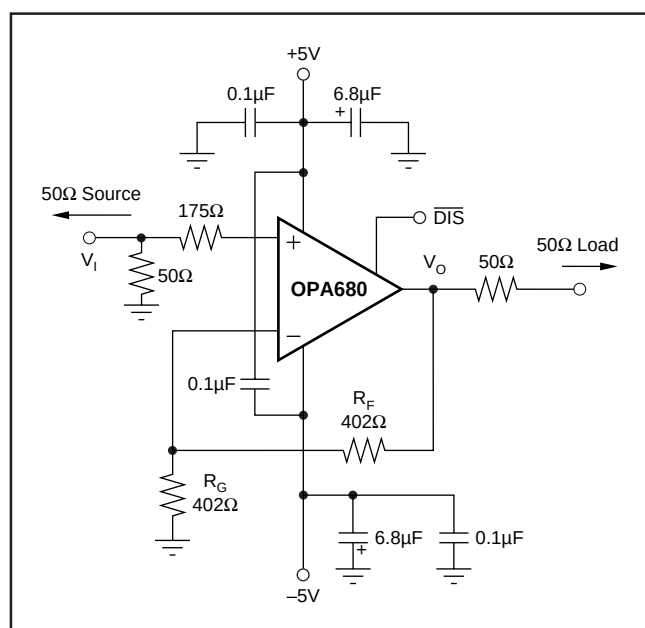
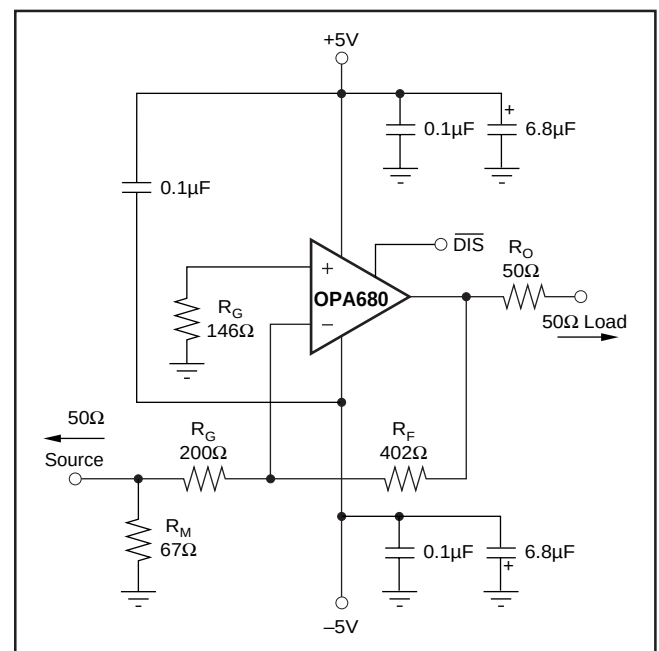

FIGURE 1. DC-Coupled, $G = +2$, Bipolar Supply, Specification and Test Circuit.
FIGURE 8. Gain of -2 Example Circuit.
At $T_A = +25^\circ\text{C}$, $G = +2$, $R_F = 402\Omega$, and $R_L = 100\Omega$, unless otherwise noted. See Figure 1.
At $T_A = +25^\circ C$, $G = +2$, $R_F = 402\Omega$, and $R_L = 100\Omega$, unless otherwise noted. See Figure 1.
Figure 1 shows the DC-coupled, gain of +2, dual power supply circuit configuration used as the basis of the $\pm 5\text{V}$ Specifications and Typical Performance Curves. For test purposes, the input impedance is set to 50Ω with a resistor to ground and the output impedance is set to 50Ω with a series output resistor. Voltage swings reported in the specifications are taken directly at the input and output pins, while output powers (dBm) are at the matched 50Ω load. For the circuit of Figure 1, the total effective load will be $100\Omega \parallel 804\Omega$. The disable control line is typically left open to guarantee normal amplifier operation. Two optional components are included in Figure 1. An additional resistor (175Ω) is included in series with the non-inverting input. Combined with the 25Ω DC source resistance looking back towards the signal generator, this gives an input bias current cancelling resistance that
A good rule of thumb is to target the parallel combination of R_F and R_G (Figure 1) to be less than approximately 300Ω . The combined impedance $R_F \parallel R_G$ interacts with the inverting input capacitance, placing an additional pole in the feedback network and thus, a zero in the forward response. Assuming a $2pF$ total parasitic on the inverting node, holding $R_F \parallel R_G < 300\Omega$ will keep this pole above $250MHz$. By itself, this constraint implies that the feedback resistor R_F can increase to several $k\Omega$ at high gains. This is acceptable as long as the pole formed by R_F and any parasitic capacitance appearing in parallel is kept out of the frequency range of interest.
Voltage feedback op amps exhibit decreasing closed-loop bandwidth as the signal gain is increased. In theory, this relationship is described by the Gain Bandwidth Product (GBP) shown in the specifications. Ideally, dividing GBP by the non-inverting signal gain (also called the Noise Gain, or NG) will predict the closed-loop bandwidth. In practice, this only holds true when the phase margin approaches 90° , as it does in high gain configurations. At low gains (increased feedback factors), most amplifiers will exhibit a more complex response with lower phase margin. The OPA680 is compensated to give a slightly peaked response in a non-inverting gain of 2 (Figure 1). This results in a typical gain of +2 bandwidth of $220MHz$, far exceeding that predicted by dividing the $300MHz$ GBP by 2. Increasing the gain will cause the phase margin to approach 90° and the bandwidth to more closely approach the predicted value of (GBP/NG) . At a gain of +10, the $30MHz$ bandwidth shown in the Typical Specifications agrees with that predicted using the simple formula and the typical GBP of $300MHz$.
Frequency response in a gain of +2 may be modified to achieve exceptional flatness simply by increasing the noise gain to 2.5. One way to do this, without affecting the +2 signal gain, is to add an 804Ω resistor across the two inputs in the circuit of Figure 1. A similar technique may be used
Since the OPA680 is a general purpose, wideband voltage feedback op amp, all of the familiar op amp application circuits are available to the designer. Inverting operation is one of the more common requirements and offers several performance benefits. Figure 8 shows a typical inverting configuration where the I/O impedances and signal gain from Figure 1 are retained in an inverting circuit configuration.
amplifier output. For an inverting gain of 2, setting R_G to 50Ω for input matching eliminates the need for R_M but requires a 100Ω feedback resistor. This has the interesting advantage that the noise gain becomes equal to 2 for a 50Ω source impedance—the same as the non-inverting circuits considered above. However, the amplifier output will now see the 100Ω feedback resistor in parallel with the external load. In general, the feedback resistor should be limited to the 200Ω to $1.5k\Omega$ range. In this case, it is preferable to increase both the R_F and R_G values as shown in Figure 8, and then achieve the input matching impedance with a third resistor (R_M) to ground. The total input impedance becomes the parallel combination of R_G and R_M .
The second major consideration, touched on in the previous paragraph, is that the signal source impedance becomes part of the noise gain equation and hence influences the bandwidth. For the example in Figure 8, the R_M value combines in parallel with the external 50Ω source impedance, yielding an effective driving impedance of $50\Omega \parallel 67\Omega = 28.6\Omega$. This impedance is added in series with R_G for calculating the noise gain (NG). The resultant NG is 2.8 for Figure 8, as opposed to only 2 if R_M could be eliminated as discussed above. The bandwidth will therefore be slightly lower for the gain of -2 circuit of Figure 8 than for the gain of $+2$ circuit of Figure 1.
The third important consideration in inverting amplifier design is setting the bias current cancellation resistor on the non-inverting input (R_B). If this resistor is set equal to the total DC resistance looking out of the inverting node, the output DC error, due to the input bias currents, will be reduced to (Input Offset Current) $\cdot R_F$. If the 50Ω source impedance is DC-coupled in Figure 8, the total resistance to ground on the inverting input will be 228Ω . Combining this in parallel with the feedback resistor gives the $R_B = 146\Omega$ used in this example. To reduce the additional high frequency noise introduced by this resistor, it is sometimes bypassed with a capacitor. As long as $R_B < 350\Omega$, the capacitor is not required since the total noise contribution of all other terms will be less than that of the op amp's input noise voltage. As a minimum, the OPA680 requires an R_B value of 50Ω to damp out parasitic-induced peaking—a direct short to ground on the non-inverting input runs the risk of a very high frequency instability in the input stage.
The OPA680 provides good distortion performance into a 100Ω load on $\pm 5V$ supplies. Relative to alternative solutions, it provides exceptional performance into lighter loads and/or operating on a single +5V supply. Generally, until the fundamental signal reaches very high frequency or power levels, the 2nd harmonic will dominate the distortion with a negligible 3rd harmonic component. Focusing then on the 2nd harmonic, increasing the load impedance improves distortion directly. Remember that the total load includes the feedback network; in the non-inverting configuration (Figure 1) this is sum of $R_F + R_G$, while in the inverting configuration, it is just R_F . Also, providing an additional supply decoupling capacitor (0.1μF) between the supply pins (for bipolar operation) improves the 2nd-order distortion slightly (3dB to 6dB).
Evaluating these two equations for the OPA680 circuit and component values shown in Figure 1 will give a total output spot noise voltage of $11\text{nV}/\sqrt{\text{Hz}}$ and a total equivalent input spot noise voltage of $5.5\text{nV}/\sqrt{\text{Hz}}$. This is including the noise added by the bias current cancellation resistor (175Ω) on the non-inverting input. This total input-referred spot noise voltage is only slightly higher than the $4.8\text{nV}/\sqrt{\text{Hz}}$ specification for the op amp voltage noise alone. This will be the case
as long as the impedances appearing at each op amp input are limited to the previously recommended maximum value of 300Ω . Keeping both $(R_F \parallel R_G)$ and the non-inverting input source impedance less than 300Ω will satisfy both noise and frequency response flatness considerations. Since the resistor-induced noise is relatively negligible, additional capacitive decoupling across the bias current cancellation resistor (R_B) for the inverting op amp configuration of Figure 8 is not required.
The balanced input stage of a wideband voltage feedback op amp allows good output DC accuracy in a wide variety of applications. The power supply current trim for the OPA680 gives even tighter control than comparable products. Although the high speed input stage does require relatively high input bias current (typically $14\mu\text{A}$ out of each input terminal), the close matching between them may be used to reduce the output DC error caused by this current. The total output offset voltage may be considerably reduced by matching the DC source resistances appearing at the two inputs. This reduces the output DC error due to the input bias currents to the offset current times the feedback resistor. Evaluating the configuration of Figure 1, using worst-case $+25^\circ\text{C}$ input offset voltage and current specifications, gives a worst-case output offset voltage equal to: – (NG = non-inverting signal gain)